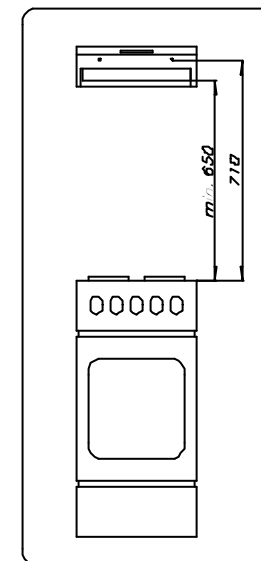

Fig. 2
a) trace a vertical line on the wall to indicate the center of the cooker plate, dismantle the grease filter, hold the hood body „A” to the wall with its indicated center point on the vertical line, with the distance between the holes and the cooker plate at least 710 mm (Fig. 2). Note: make sure that the hood body „A” is level.